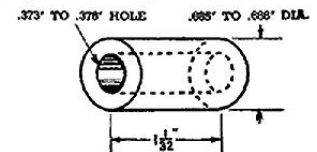

Fig. 6—Special Adjusting Bushing
2. Remove the clevis pin from the vacuum cylinder piston rod yoke and reactionary linkage. Remove the two shift control rod links; thereby disconnecting the piston rod and valve links from the reactionary linkage. Push the piston into the cylinder to provide clearance for making adjustments. A special adjusting bushing should be made up for making the valve adjustments. Details of this bushing are shown in Fig. 6.